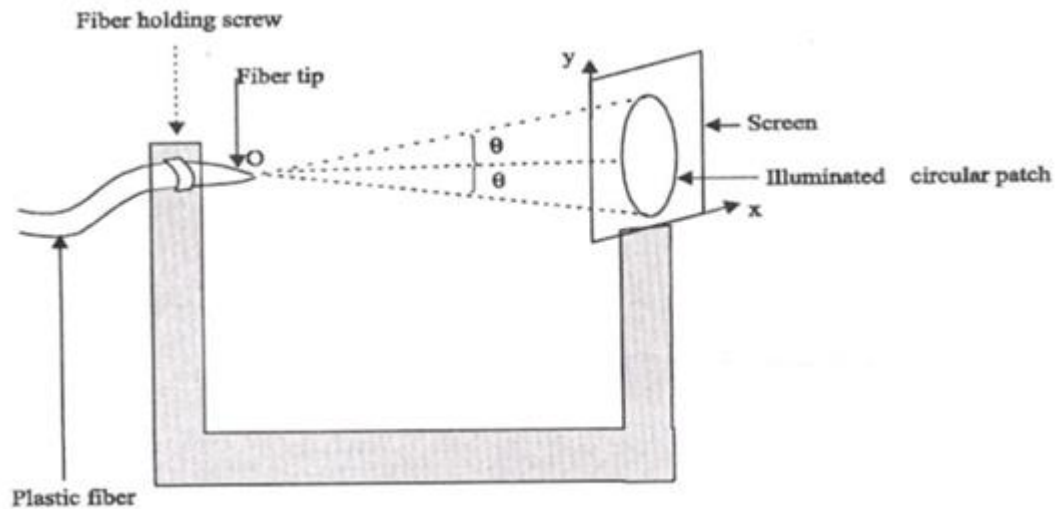

Fig. 1.2. Experimental setup for acceptance angle
- Now, we get illuminated circular patch on the screen. Fig.1.2 shows the experimental setup for acceptance angle measure.